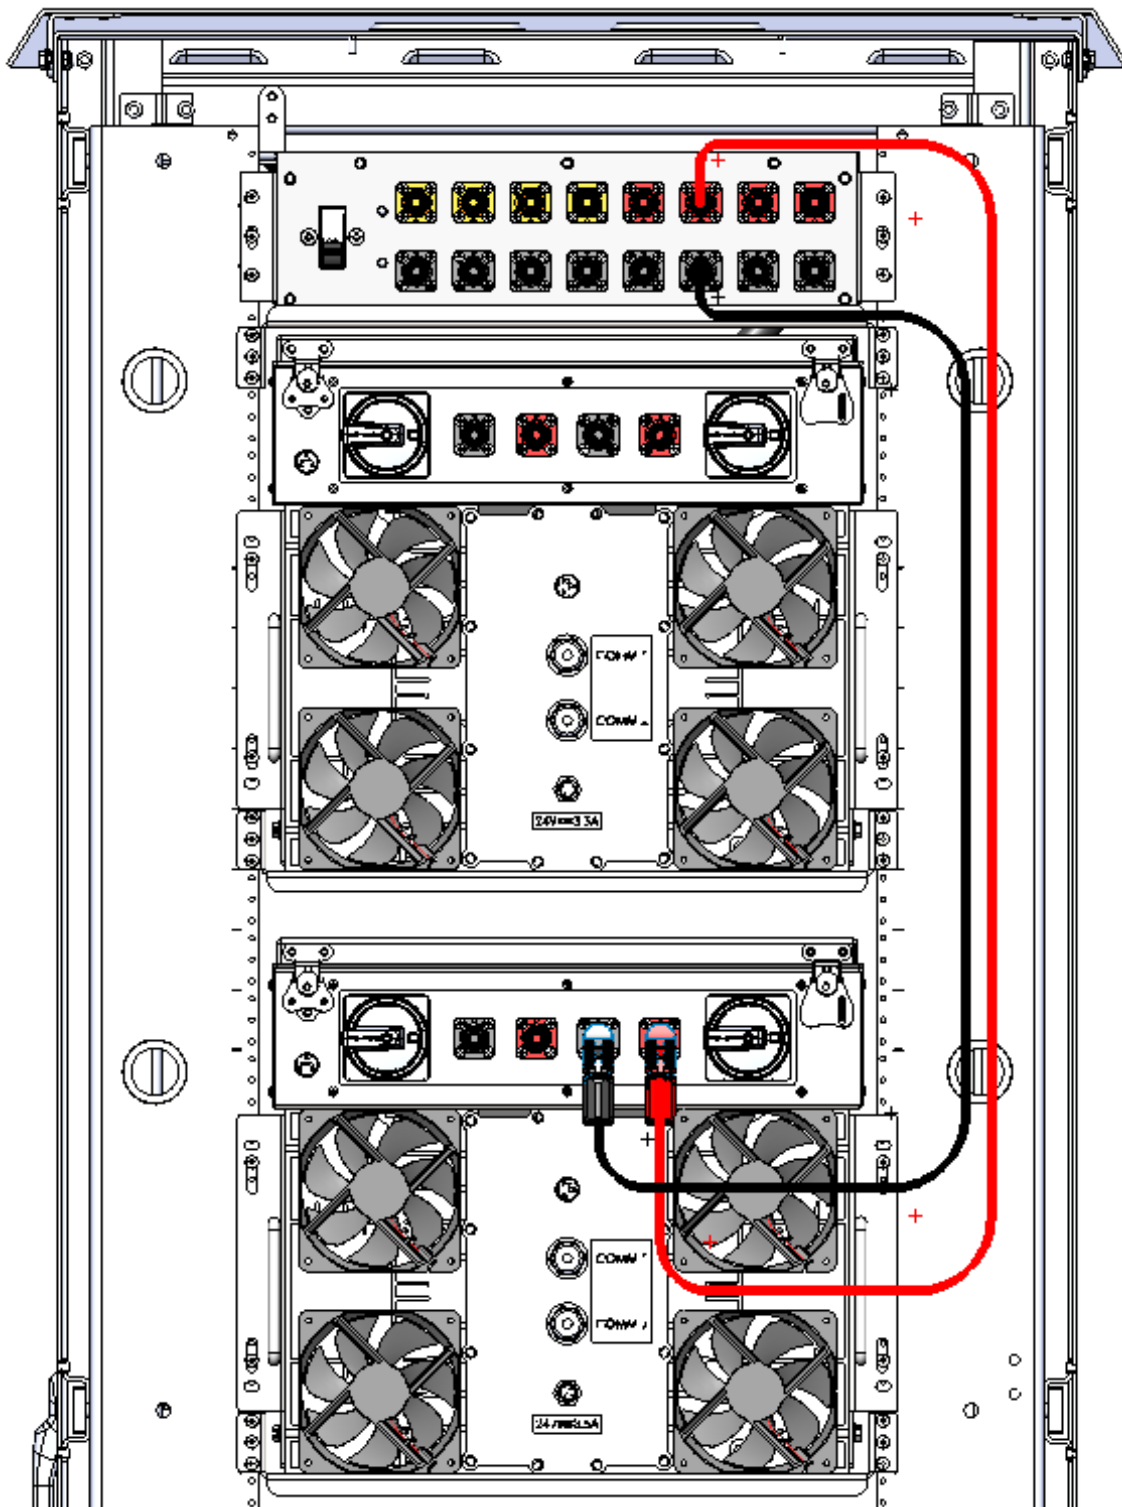

FIGURE 27: SURLOK CABLING ROUTED TO SECONDARY (OUTPUT) FEED #2
- (2) 5-foot SurLok Cables for SPOT #2 shown in Figure 27.